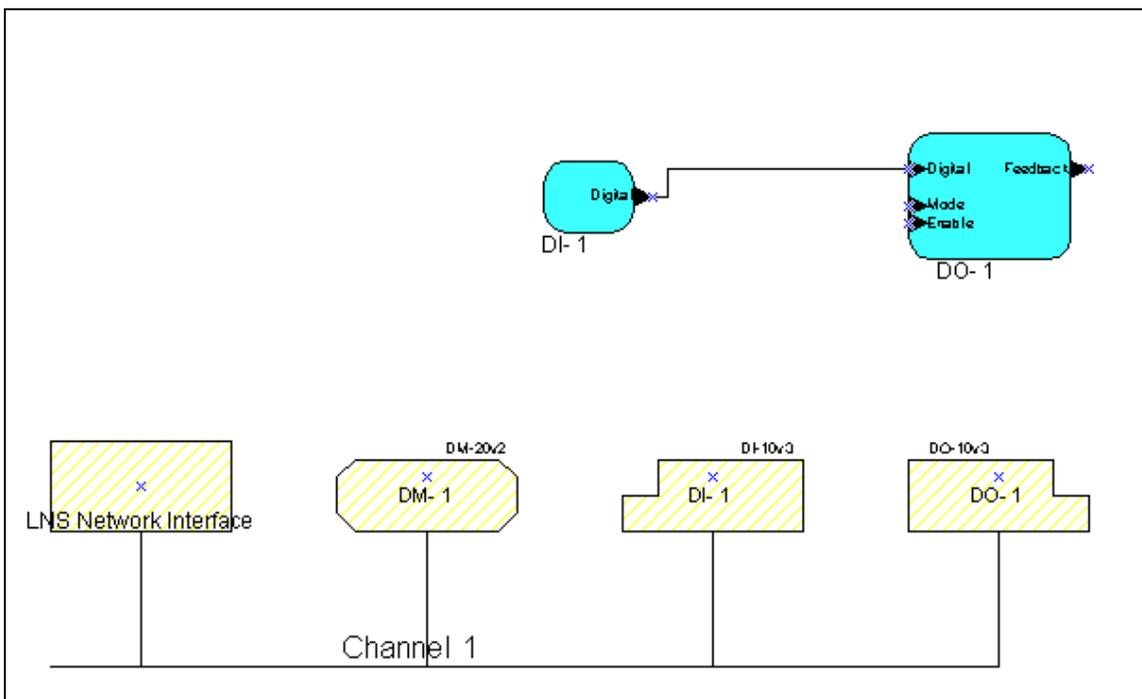

Figure 5.1 - LonMaker Network for Example 1
7. Connect the input to the output. The drawing should look something like Figure 5.1.